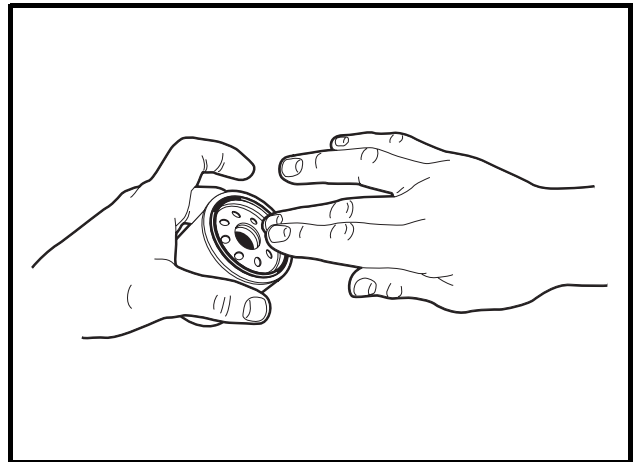

Figure 10-12 Coat Oil Filter Rubber Seal
11. Install a new oil filter (CCI P/N 1016467) onto the engine oil filter port. Apply a light coat of white lithium NLGI Number 2 grease (Dow Corning® BR2-Plus or equivalent) or new engine oil to the rubber seal around the outside surface of the filter before attaching it to the oil filter port (**Figure 10-12, Page 10-13**). This will help seal the filter to the oil mounting bracket.